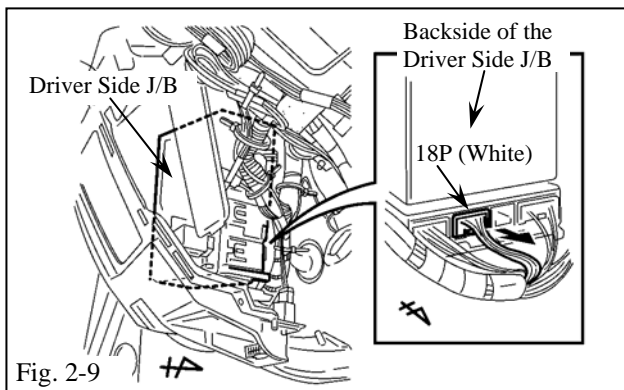

Fig. 2-9
- (l) Locate and disconnect the white 18P connector from the backside of the driver side J/B in the bottom of the second space from the left. (Fig. 2-9)